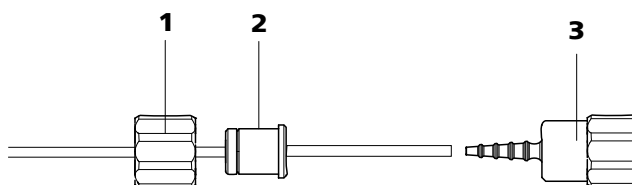

Figure 23 Install pump tubing connection without filter
- **Case B:** a 6.2744.160 pump tubing connection **without filter** (see Figure 23, page 40).